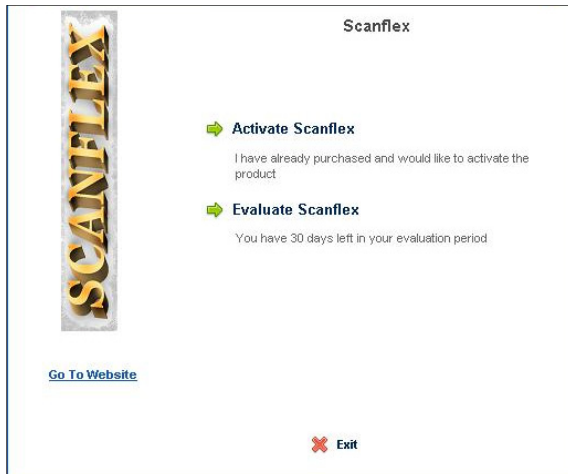

Figure 14. Options for activating ScanFlex™ software.
2. When the ScanFlex™ activation screen opens up, select either *ACTIVATE SCANFLEX* or *EVALUATE SCANFLEX* (Fig. 14).